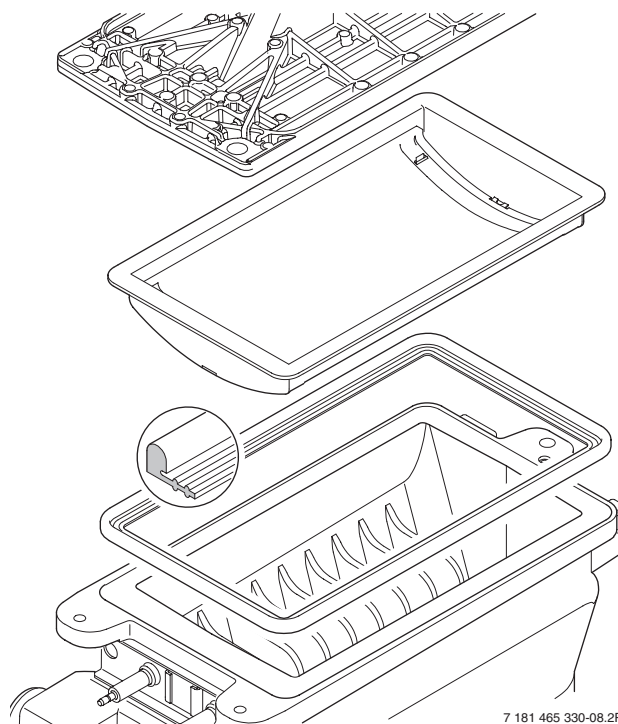

Fig. 53
- Remove the burner skin and clean components. Do not use a wire brush. Refer to fig. 53.